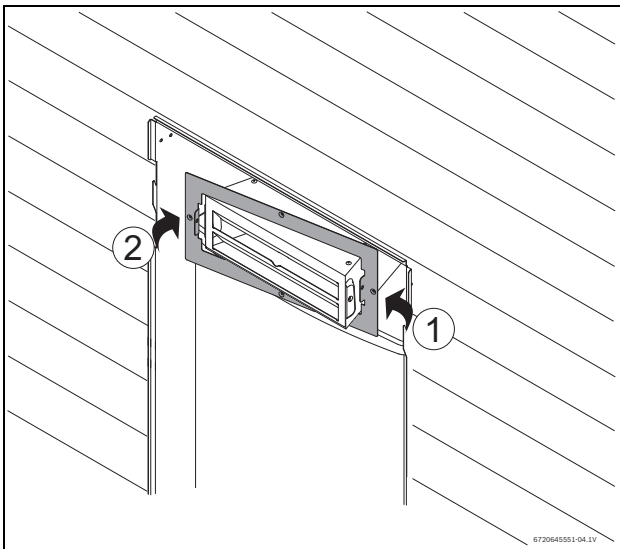

Fig. 14
- ▶ Tilt the inner exhaust flange in one direction, as shown in Fig. 14.